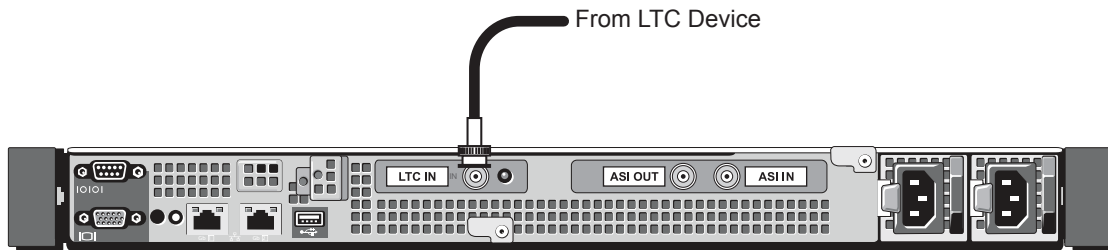

Figure 7 NWE-TS (Dell R330) — Cabling for LTC
1. Locate the **LTC IN** BNC on the NWE-TS rear panel. Refer to **Figure 7** for the BNC location.